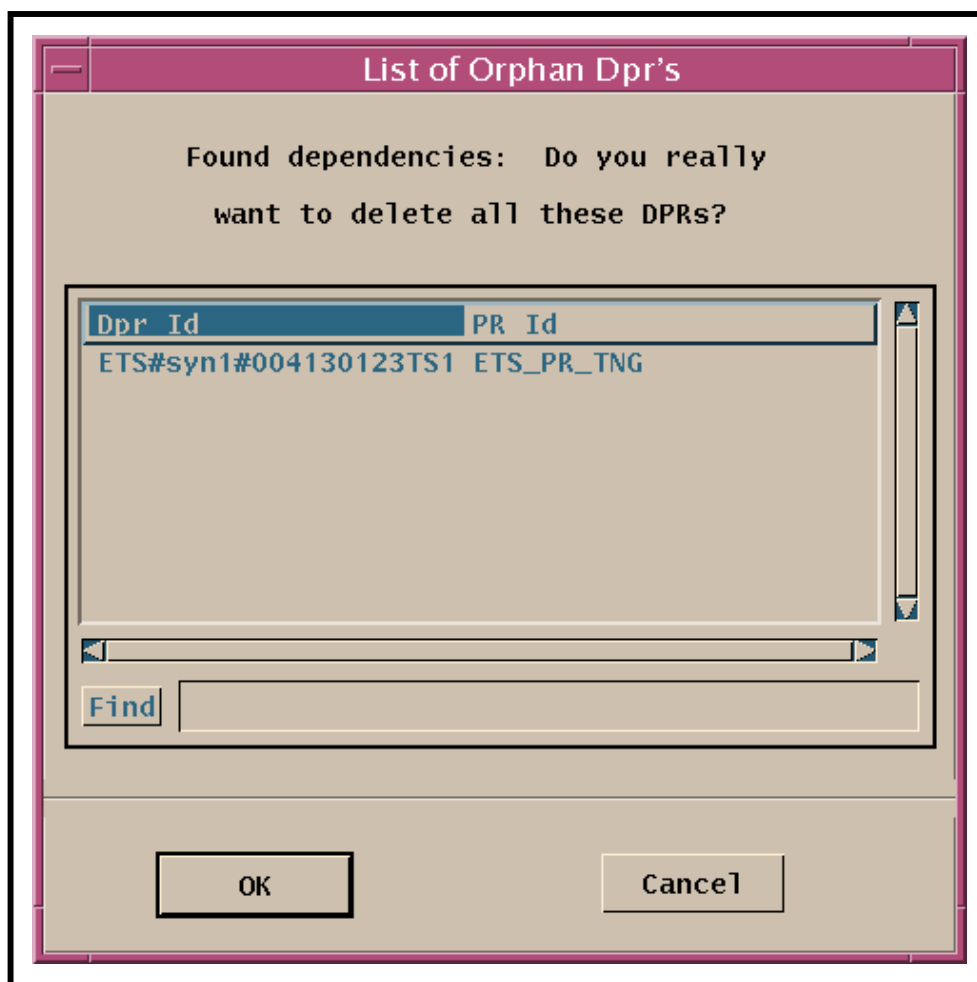

Figure 28. Production Request List of Orphan DPRs Dialogue Box
- If there are dependencies among Production Requests, a “List Of Orphan DPRs” dialogue box similar to Figure 28 is displayed.